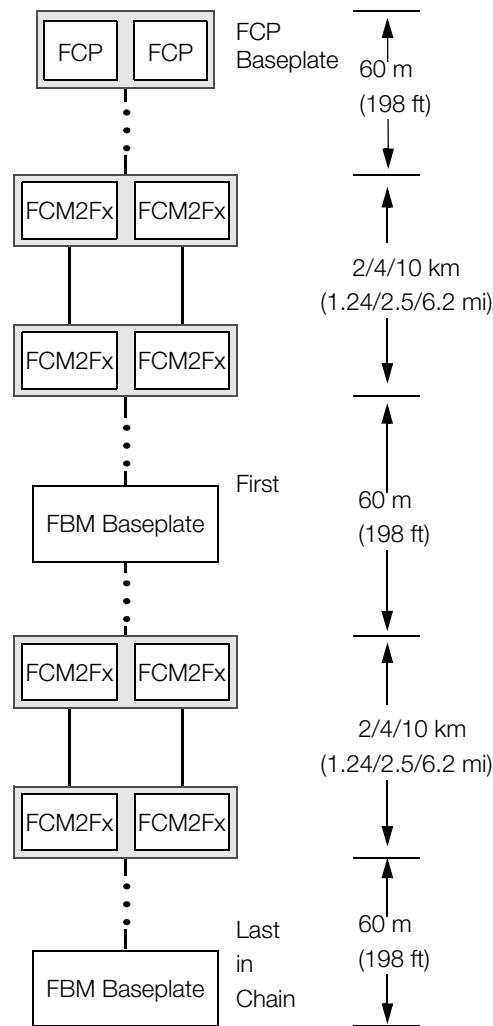

Figure 5. Fieldbus Cable Length Restrictions w/FCM2Fs Between FCP and FBM Baseplates, and Between Baseplates
Each FCP/FCM drives a segment of interconnected baseplates of up to 60 m (198 ft). Up to four pairs of FCM2Fxs can be used in a Fieldbus network (see Figure 5).
* 20 km distance is allowed through the use of four pairs of FCM2F10s, as shown in Figure 5 above.